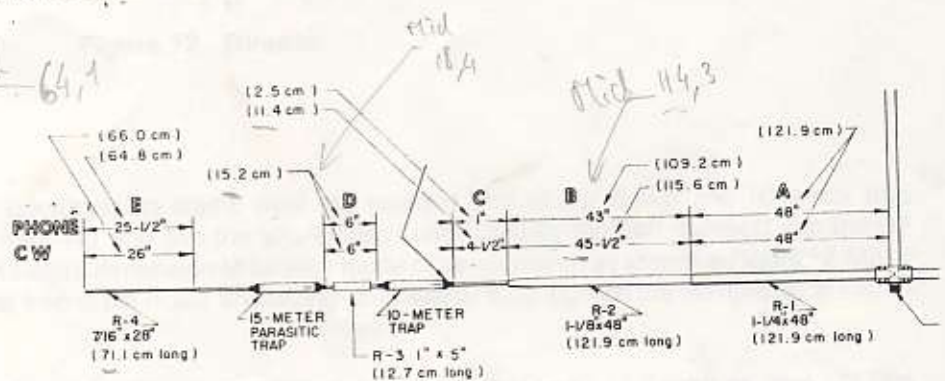

Figure 10 Reflector
Select the R1 section of tubing ($1\frac{1}{4}$ " x 48", 121.9 cm long, item 4). Slip a $1\frac{1}{4}$ " compression clamp onto the R1 section. Refer to Figure 8. Select the R2 section ($1\frac{1}{8}$ " x 48", 121.7 cm long, item 7). Slip the unswaged (untapered) end of the R2 section into the R1 section and measure dimensions B for your mode of transmission (phone or CW) as shown in Figure 10 then tighten the compression clamp lightly.
Slip a 1" compression clamp onto the swaged end of the R2 section. Select the 10-meter trap (item 16), and slip the shorted end into the R2 section. The shorted end can be identified by the part number marking, near the plastic insulator. Measure dimension C for your mode of transmission as shown in Figure 10. Make certain the drain holes in the traps are facing downward.
Slip two 1" compression clamps onto the R3 section (1" x 5", 12.7 cm long, item 13). Now slip the R3 section over the 10-meter trap and slip the shorted end of the 15-meter parasitic trap (item 15), into the R3 section. Make certain the shorted end of the trap (identified by the part number) is inserted into the R3 section. Measure dimension D for your mode of transmission as shown in Figure 10, keeping R3 section approximately equidistant from the two traps. Make certain the drain holes in the trap are facing downward. Now tighten all compression clamps lightly.
Slip a 1/2" compression clamp over the swaged end of the 15-meter trap. Select the R4 section (1/8" x 28", item 11) and slip it into the 15-meter trap. Measure dimension E for your mode of transmission as shown in Figure 10, then tighten the compression clamp lightly.